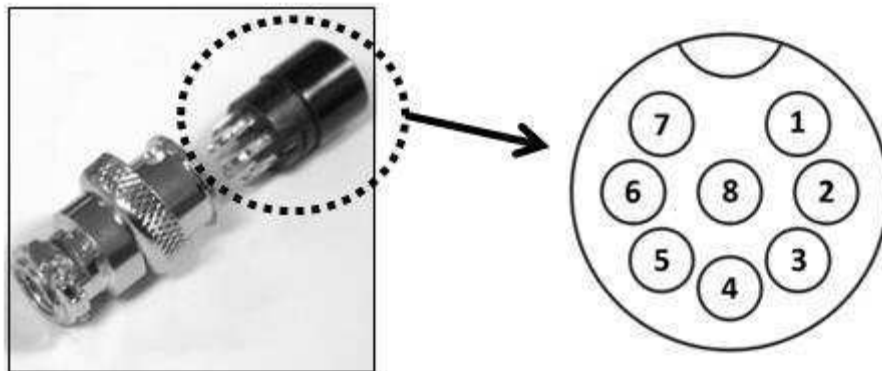

Figure 18 - Pin Numbers
- b) Solder 5 wires (22AWG) to pins 1, 2, 3, 4, and 5 of pin plug. Refer to **Figure 18** for pin numbers.